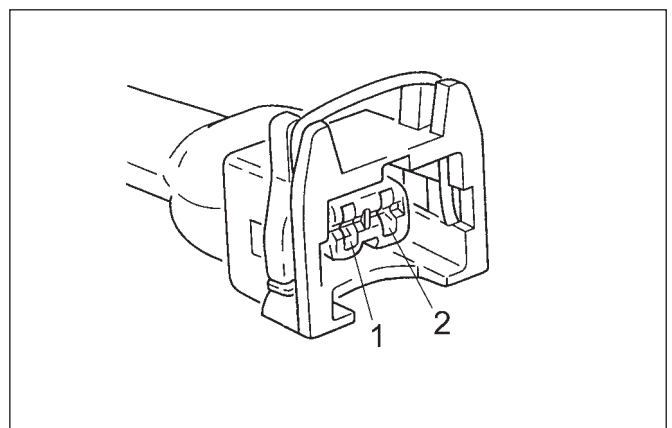

Fig. 4 Electric switch over valve connector
**Note:** The connector polarity can vary from vehicle to vehicle. The voltage supply is present at contact 1 or 2, Fig. 4. The other contact is intended for ground control purposes.
- Depending on vehicle, check voltage at connector contact 1 or 2, Fig. 4 and ground.